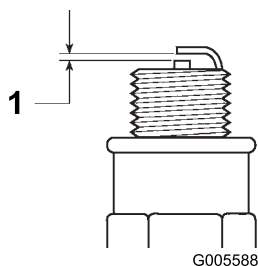

Figure 21
5. Set the gap on the plug to 0.020 in. (0.5 mm) (Figure 21).